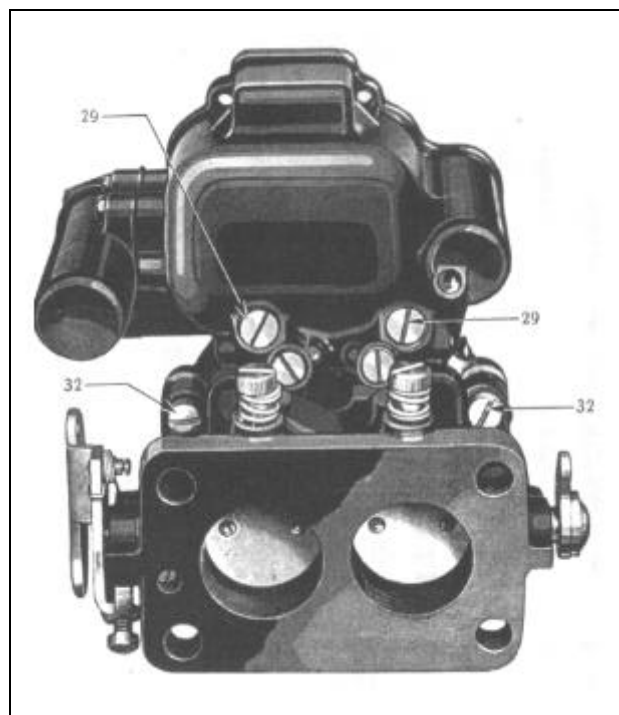

Figure 425
(105) Remove both nozzle plugs (29) and gasket assemblies (Figure 425).
(130) Install body flange assembly on main body casting, attaching with four flange attaching screws (32) and lock washers (Figure 425).